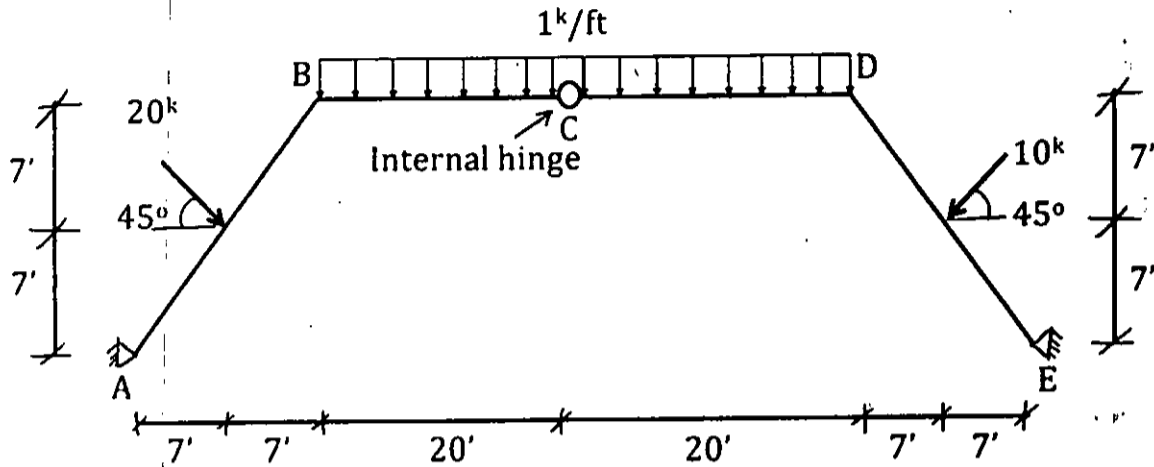

Figure 2.
(c) A drainage channel has to be designed to carry a runoff from 200 km^2 area. If the flow per square kilometer is $0.5 \text{ m}^3/\text{s}/\text{km}^2$, design the drainage channel by tractive force method. The bottom slope is 0.00025 and the channel is excavated through fine gravel having particle size of 8 mm . Assume particles are moderately rounded and the water carries sediments at low concentrations. Use attached chart (Figure 2) if needed. (15)
Figure 2 for question3(c)
2. Check the static determinacy of the frame shown below in Figure 2. Draw the axial force, shear force and bending moment diagram for the beam *BCD* of the frame. *C* is an internal hinge.